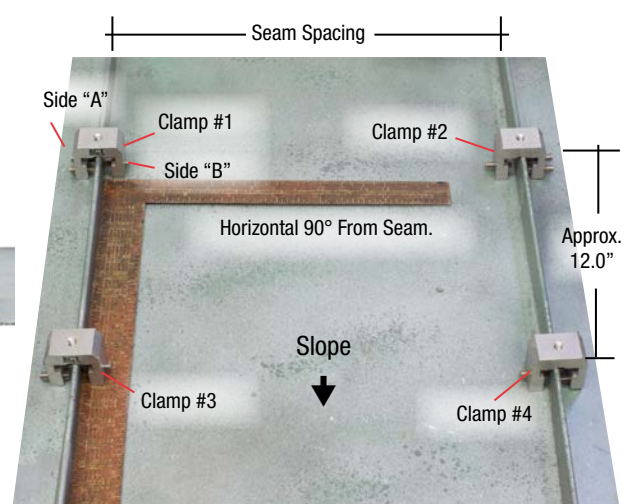

Fig.18
- 3) Shown at Fig.18, tighten clamp #1 set screws with a 3/16" hex drive coupled to a universal. Use a cordless drill set at #15 torque. The panel seam must remain centered in the RCT clamp.
- 7) Using a cordless drill set at the highest torque #15, tighten all "A" side set screws. Ensure clamps remain centered over the panel seams as shown at Fig.18. Centering clamps may require a few adjustments to the "A" and "B" side set screws.